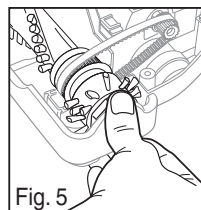

Fig. 5
- 5) Insert left end of brush roll first and then the right end (Fig. 5).